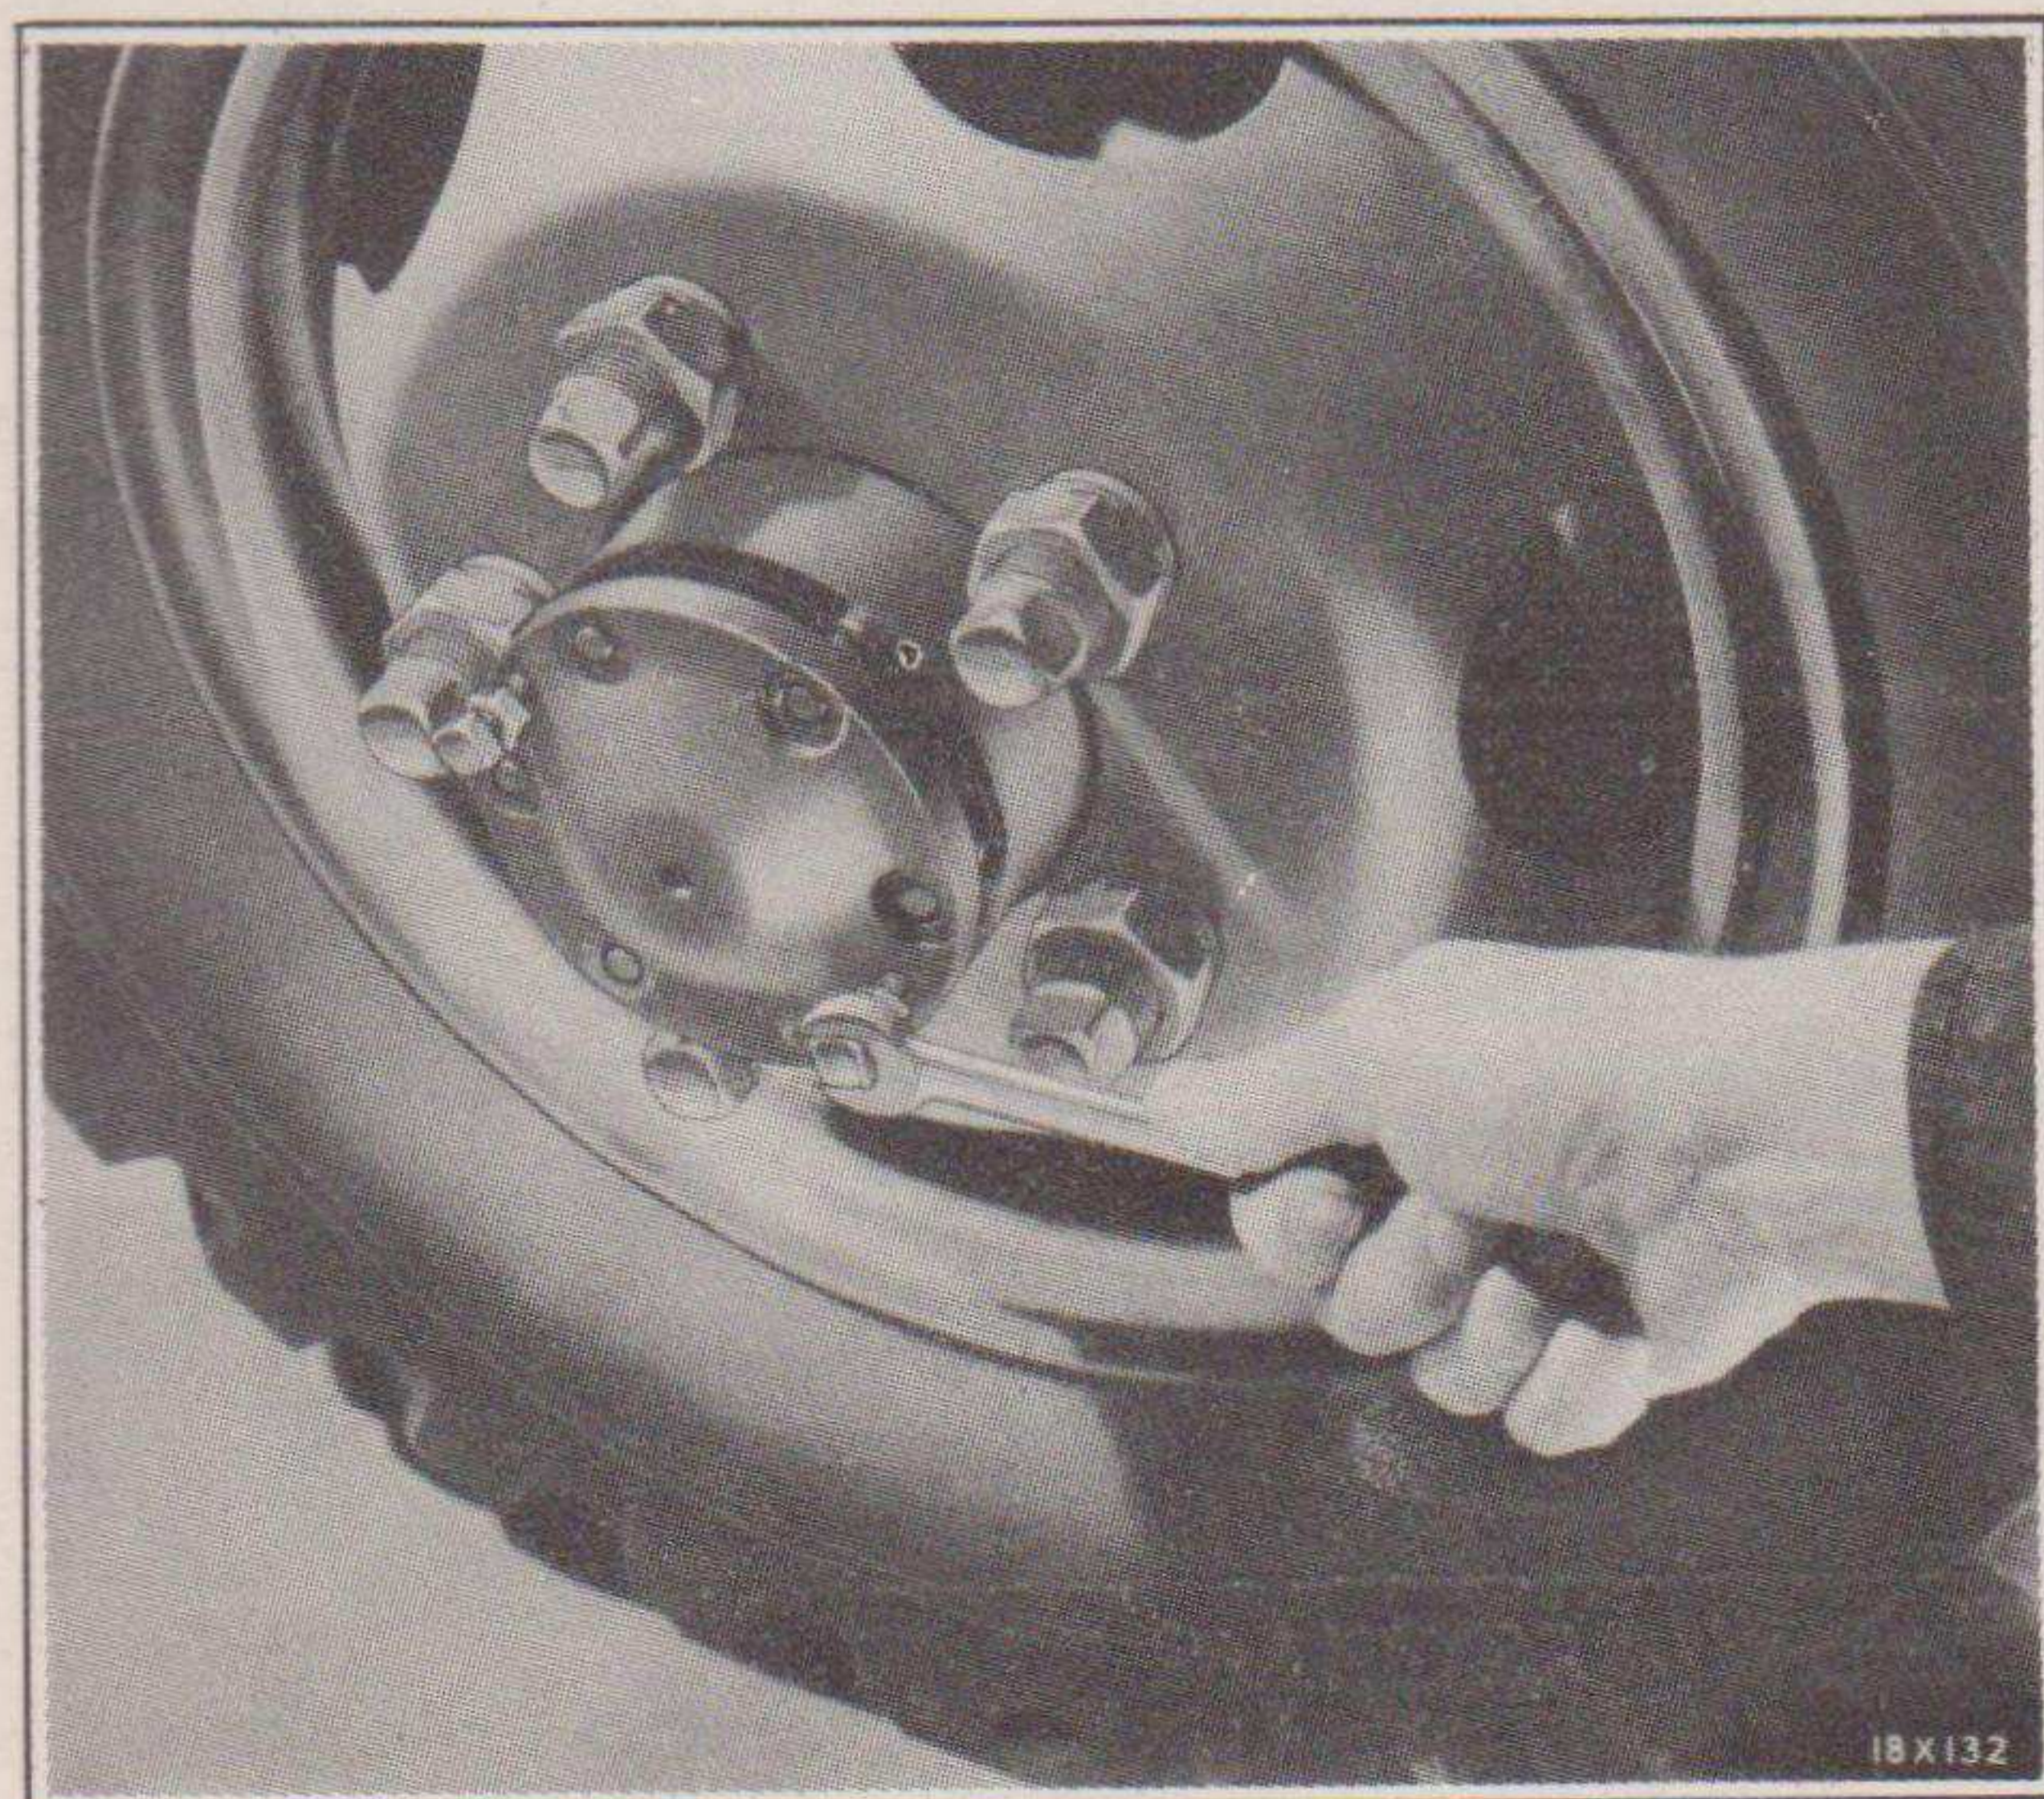

Fig. 47—Removing Rear Axle Drive Shaft with Puller Screws
(b) Back off the lock nuts on the two puller screws in the shaft flange and turn the puller screws in to remove the shaft. See Fig. 47.
- (b) Remove the retaining nuts and washers, which hold the axle drive shaft in place. Then pull out the drive shaft by loosening the lock nuts on the two puller screws in the shaft flange and turning these screws in as shown in Fig. 47.